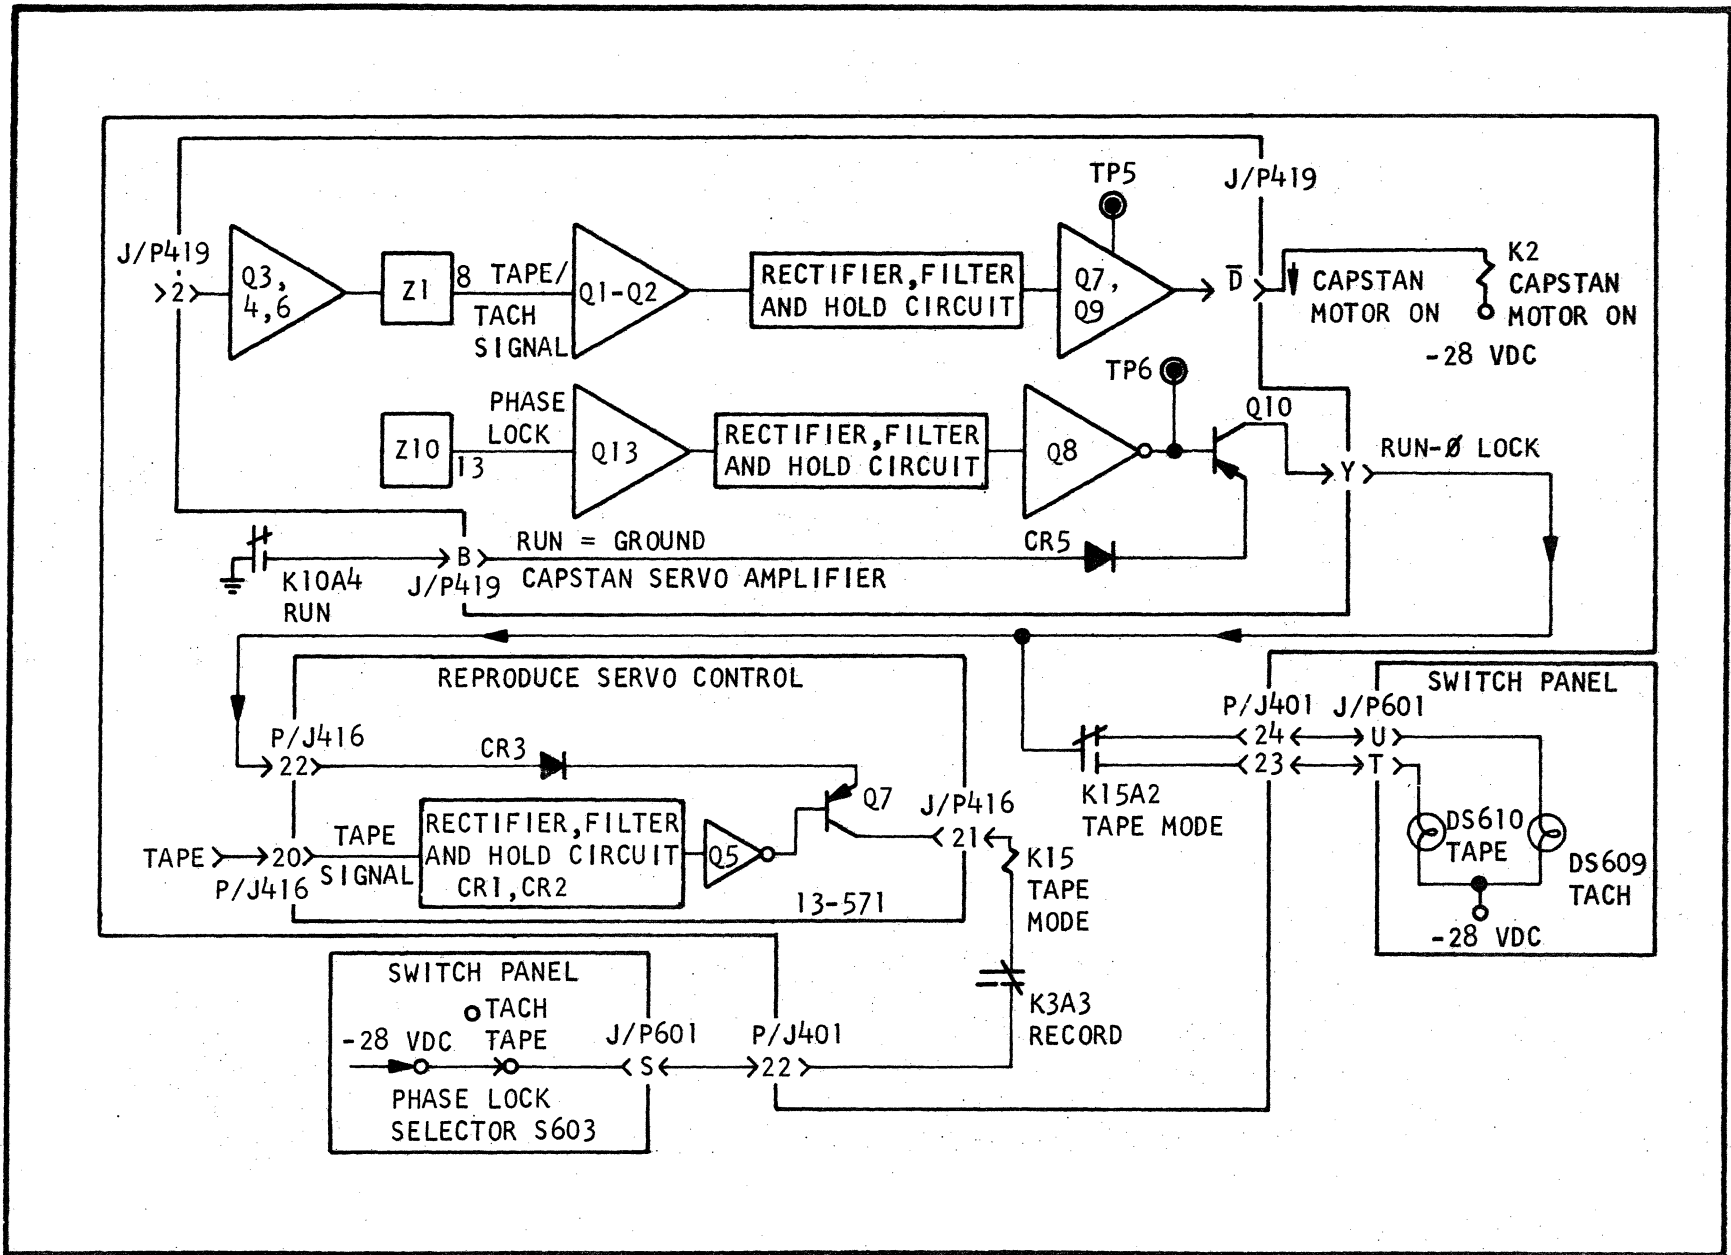

Figure 4-17. Tape/Tach Mode Control - Flow Diagram
- 4-107. TACH/TAPE MODE. (See figure 4-17, Tach/Tape Mode Control - Flow Diagram.)